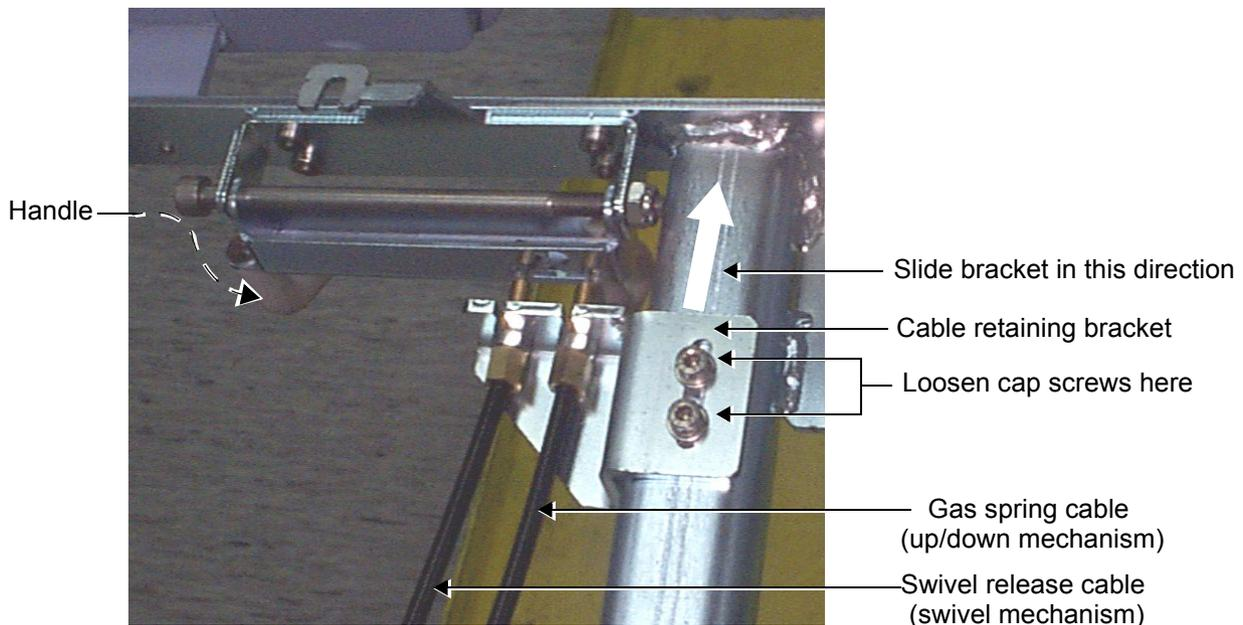

Figure 8-85 Gas Spring Cables and Retaining Bracket
- 12) Working from the *front* of the unit, and using an M4 Allen key, loosen the two cap screws on the gas spring cable retaining bracket and slide the bracket *forwards* (towards you) sufficiently to release tension on the cable, as shown in Figure 8-85.
- 9) Working from the *front* of the unit, and using an M4 Allen key, loosen the two cap screws on the swivel release cable retaining bracket and slide the bracket *forwards* sufficiently to allow removal of the cable from the up/down/swivel handle, as shown in Figure 8-85 below.
- 6) Using an M4 Allen key, loosen the two cap screws on the cable retaining bracket and slide the bracket *forwards* sufficiently to release tension on the cables, as shown in Figure 8-85.
- 8.) Slide the cable retaining bracket *backwards* (previously moved forwards) along the chassis beam sufficiently to regain tension on the cables. Using an M4 Allen key, tighten the two cap screws on the bracket to hold it firmly in position - refer to Figure 8-85 on page 8-99.